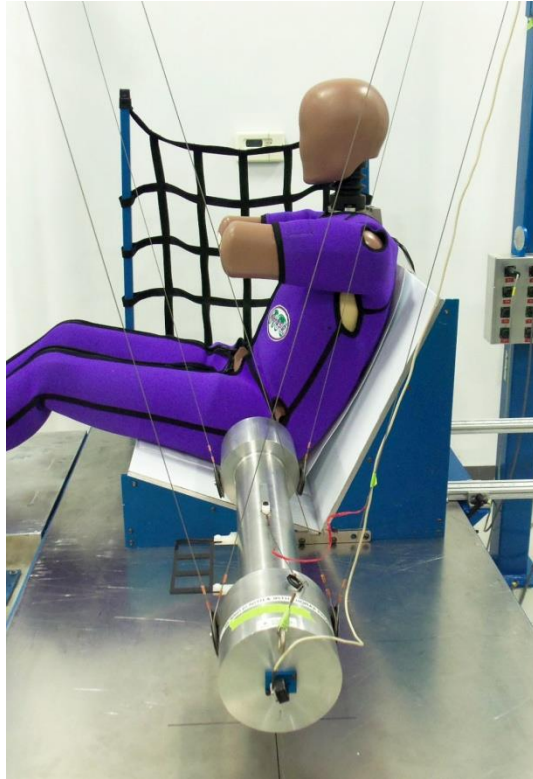

Figure 8-13 Side view of WorldSID pelvis test.
- 1) Setup the dummy in standard test posture as specified in section 8.6 with the arms horizontal or in the driving posture as shown Figure 8-13 and 8-14.